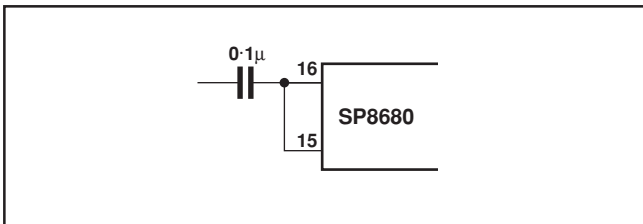
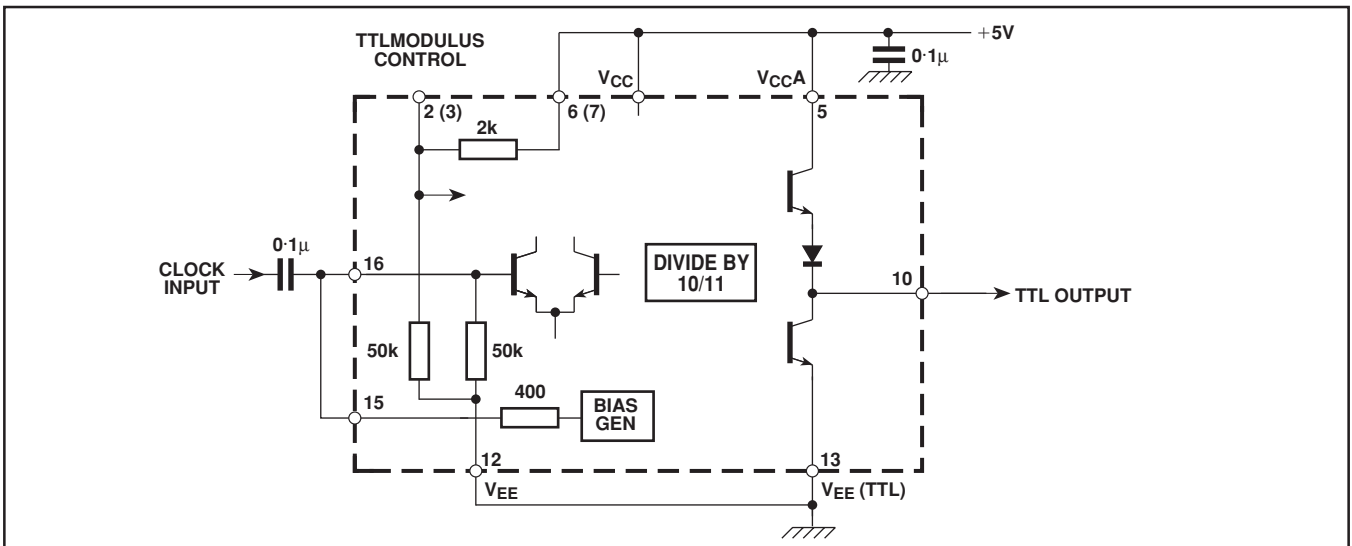

Fig. 7. AC coupled input
Fig. 8 Typical application showing TTL interfacing.
1. The clock input, which is ECL10K compatible throughout the temperature range -55°C to $+125^{\circ}\text{C}$, can also be coupled to TTL as shown in Fig. 9. The clock can also be capacitively coupled to the signal source (see Fig. 7). Connecting the internally-generated bias voltage to the clock input i.e., pin 15 to pin 16, centres the clock input about the switching threshold (see Fig. 8).